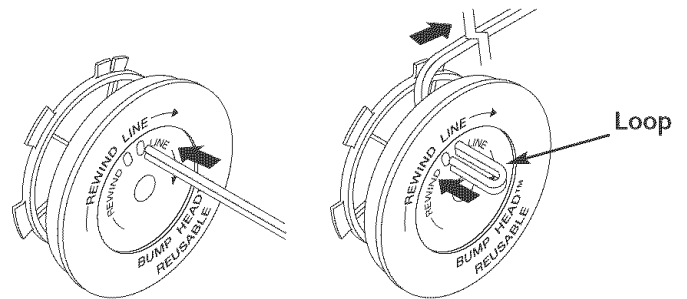

Fig. 21
- Take approximately 9 feet (3 m) of new trimming line. Insert one end of the line through one of the two holes in the inner reel (Fig. 21). Pull the line through the inner reel until only about 4 inches is left out.
- Insert the end of the line into the open hole in the inner reel and pull the line tight to make the loop as small as possible (Fig. 21).